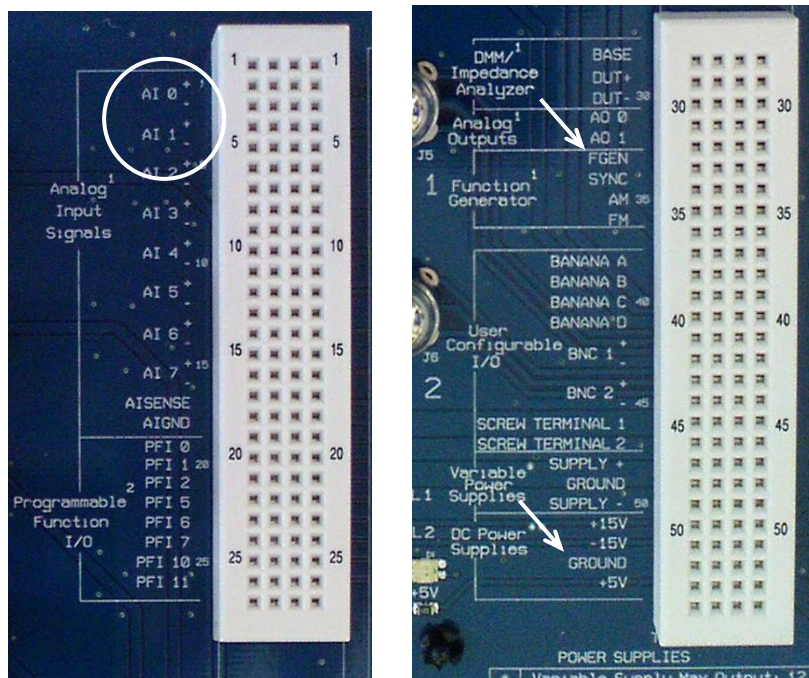

Figure 2, Connections for the Bode Analyser
- Read section **Taking a Measurement** in the context help to learn about connections. Concentrate on step 2, 3 and 4. Figure 2 shows where the relevant terminals are.